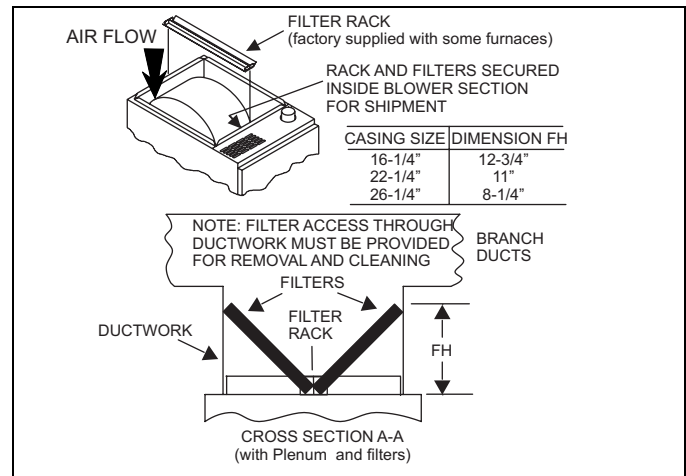
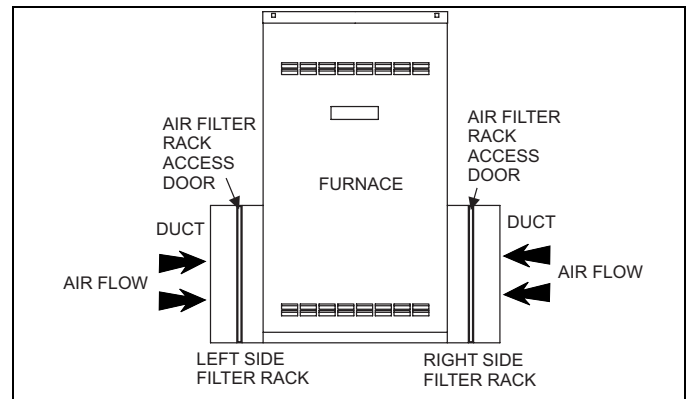

FIGURE 10: Downflow Filter
FIGURE 11: External Air Filter Rack - Left & Right Side Position
- a. If the return air filters are on the left or right side of the furnace it is a side return. Refer to Figure 11.
- c. If the air filters are on the bottom and the side of the furnace then you have a bottom and side return. You must replace both air filters. Brackets with the number two (2) before the filter size requires 2 filters. Refer to Figures 11 & 12.
- d. If the air filters are on both sides of the furnace then you have a (2) sided return. You must replace both air filters.
- e. If the air filters are in the return air plenum, above the furnace then you have a top return (Downflow Furnace). Refer to Figure 10.